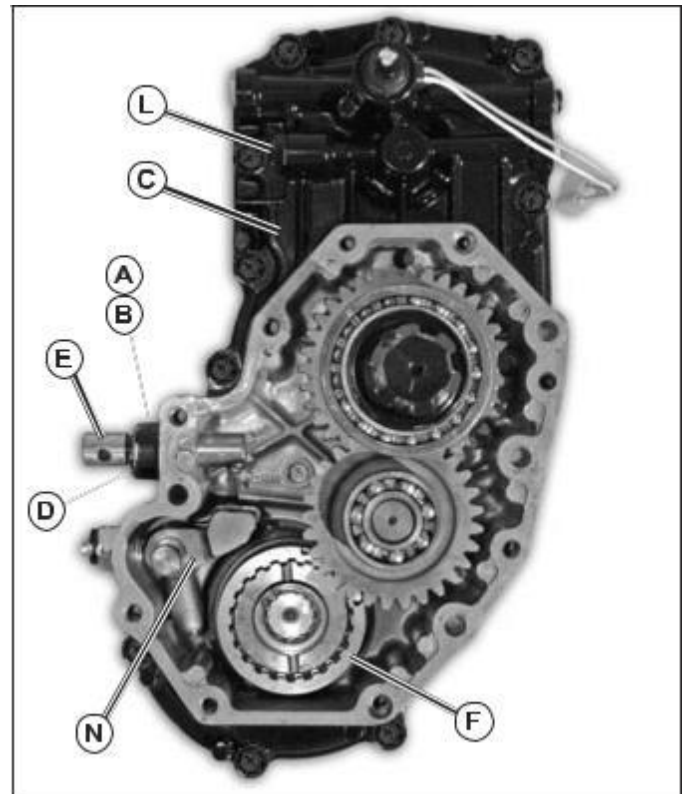
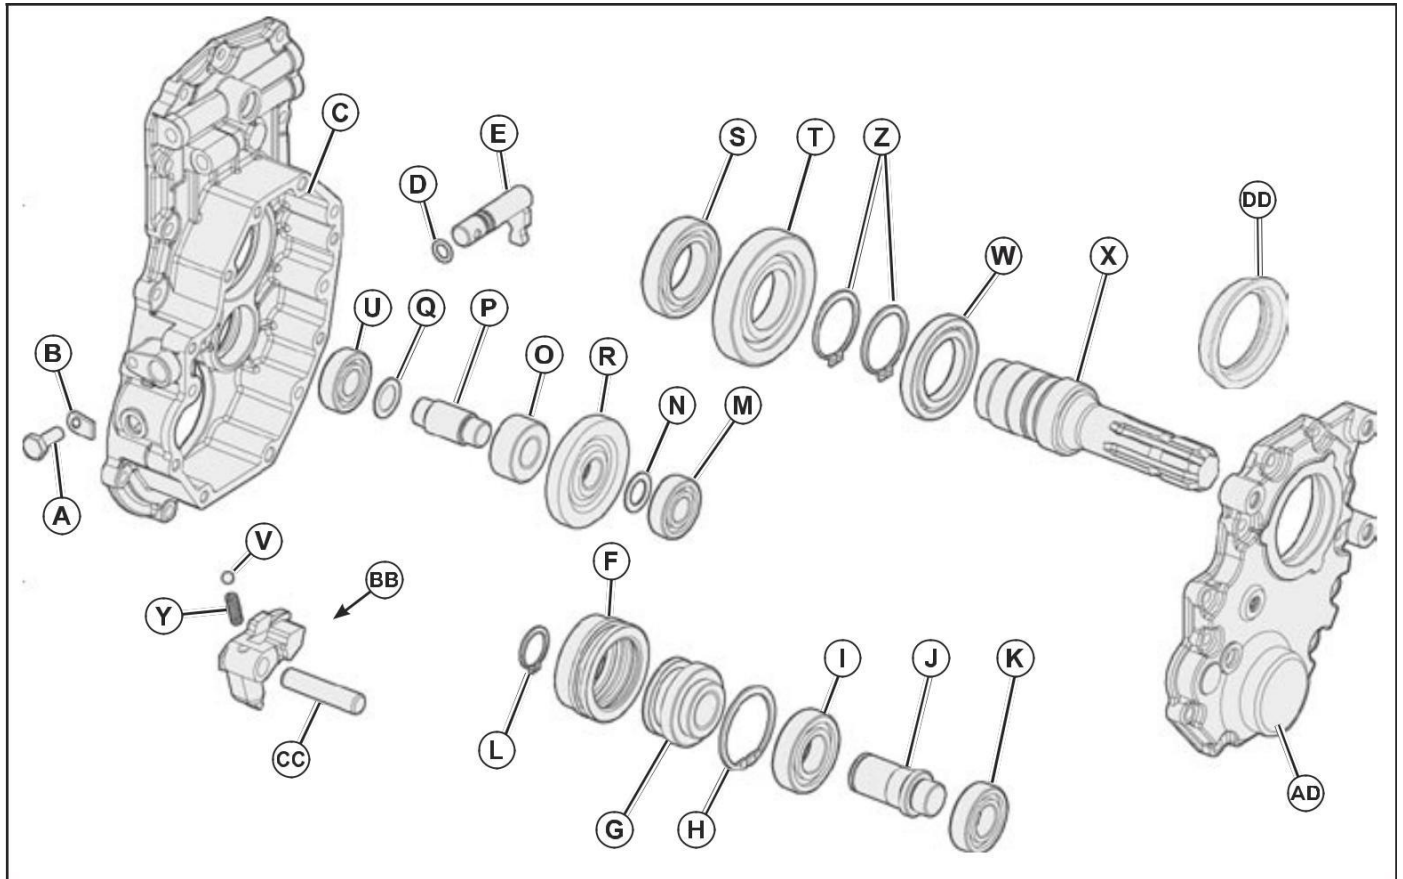

Fig. 27, Rear PTO Gear Case Assembly
Fig. 37, Rear PTO Disassembly
1. Remove cover from PTO gear case (C). (Fig. 27)
2. Remove cap screw (A) and plate (B), and pull shifter shaft (E) from PTO gear case (C). Replace O-ring on shifter shaft and apply thin coating of clean hydraulic oil, before reinstalling. (Fig. 27)
3. Remove shift collar (F) and shifter fork (N) assembly together. (Fig. 27)
6. If shifter fork (N), see fig. 27, was disassembled, install spring (Y) and ball (V) in fork. While compressing ball and spring, install fork shaft (CC). Be sure ball fits into grooves of shaft. (Fig. 37)
7. With fork groove of shift collar away from case, install shifter fork and collar. Be sure arm of shifter shaft (E) fits into slot of shifter fork. (Fig. 37)
1. Clean mating surfaces of cover (AD) and gear case (C). Be sure threaded holes are clean. (Fig. 37)
2. If removed, install gear sets in the reverse order of their disassembly. (Fig. 37)